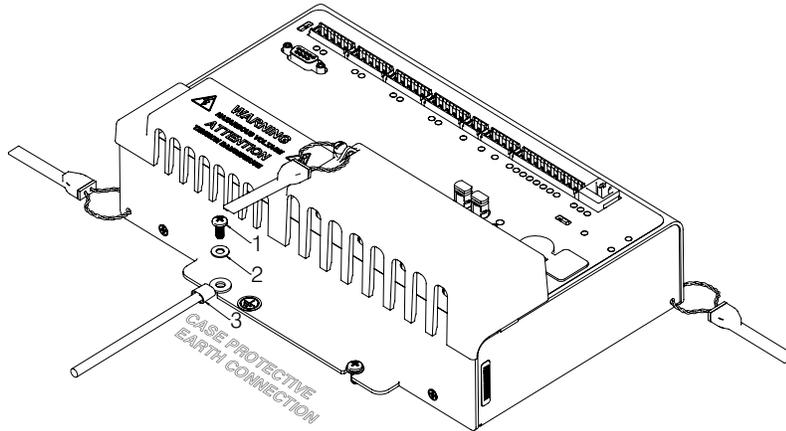

Figure 3-1: Meter Case Earth Ground Connection
To comply with UL standards, the meter case must be connected to a reliable protective earth available within the installation area. For this connection use minimum #14 AWG wire crimped to a ring terminal(3) with a dedicated tool. Fasten the ring terminal(3) to the lower left slot of the meter case with minimum #6 metal screw(1) and star washer(2), as is shown in Figure 3.1.